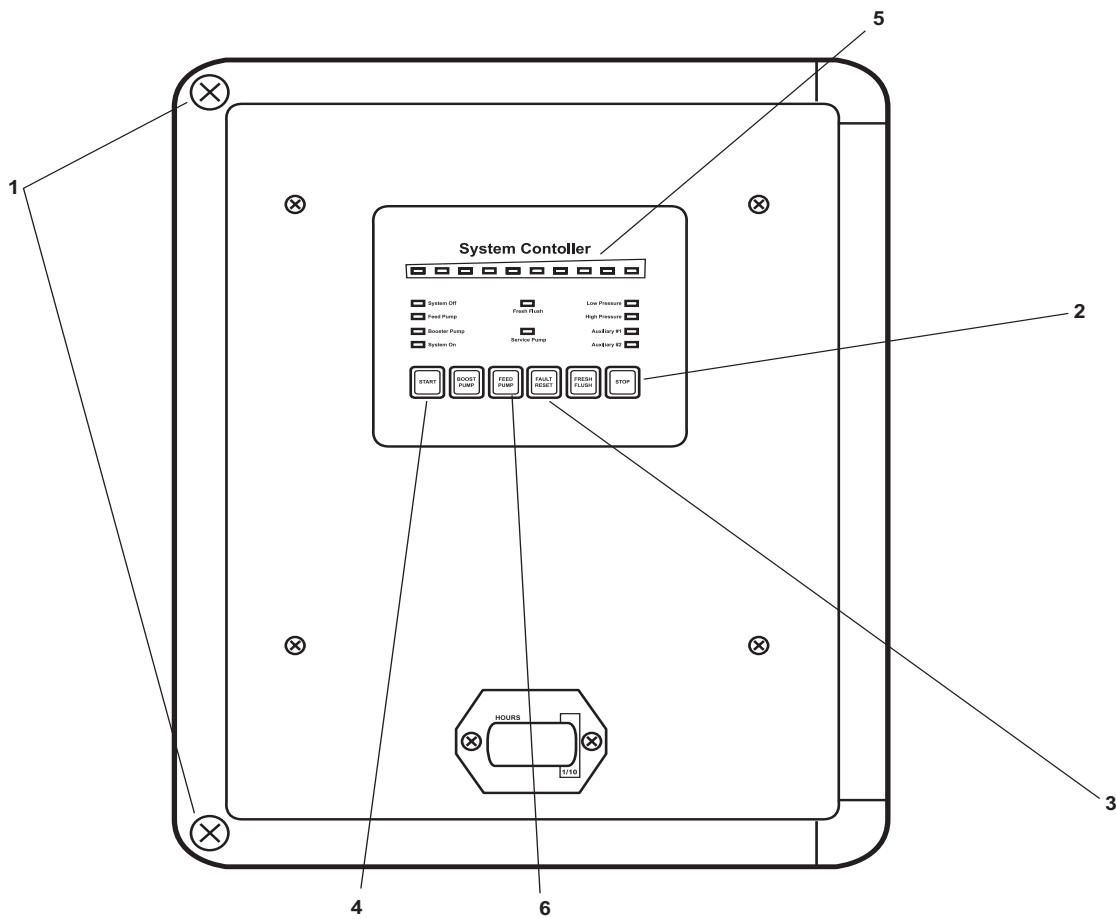

Figure 1. ROWPU System Controller Exterior
- On the applicable system controller, loosen the two captive screws (figure 1, item 1) and open the front panel.
4. Close the system controller and tighten the two captive screws (figure 1, item 1).